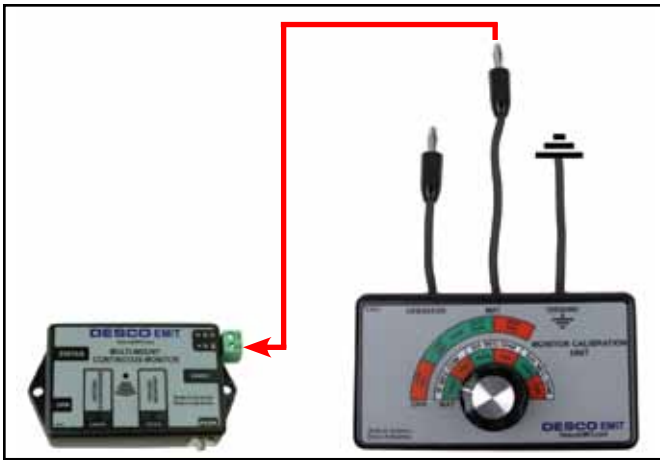

Figure 9. Connecting the MAT test lead from the Monitor Calibration Unit to the Multi-Mount Continuous Monitor
Step 2: Connect a tinned wire to the Calibration Unit's banana plug labeled "MAT." Insert the other end of the wire to the monitor's green terminal block labeled "MAT" (see Figure 9).